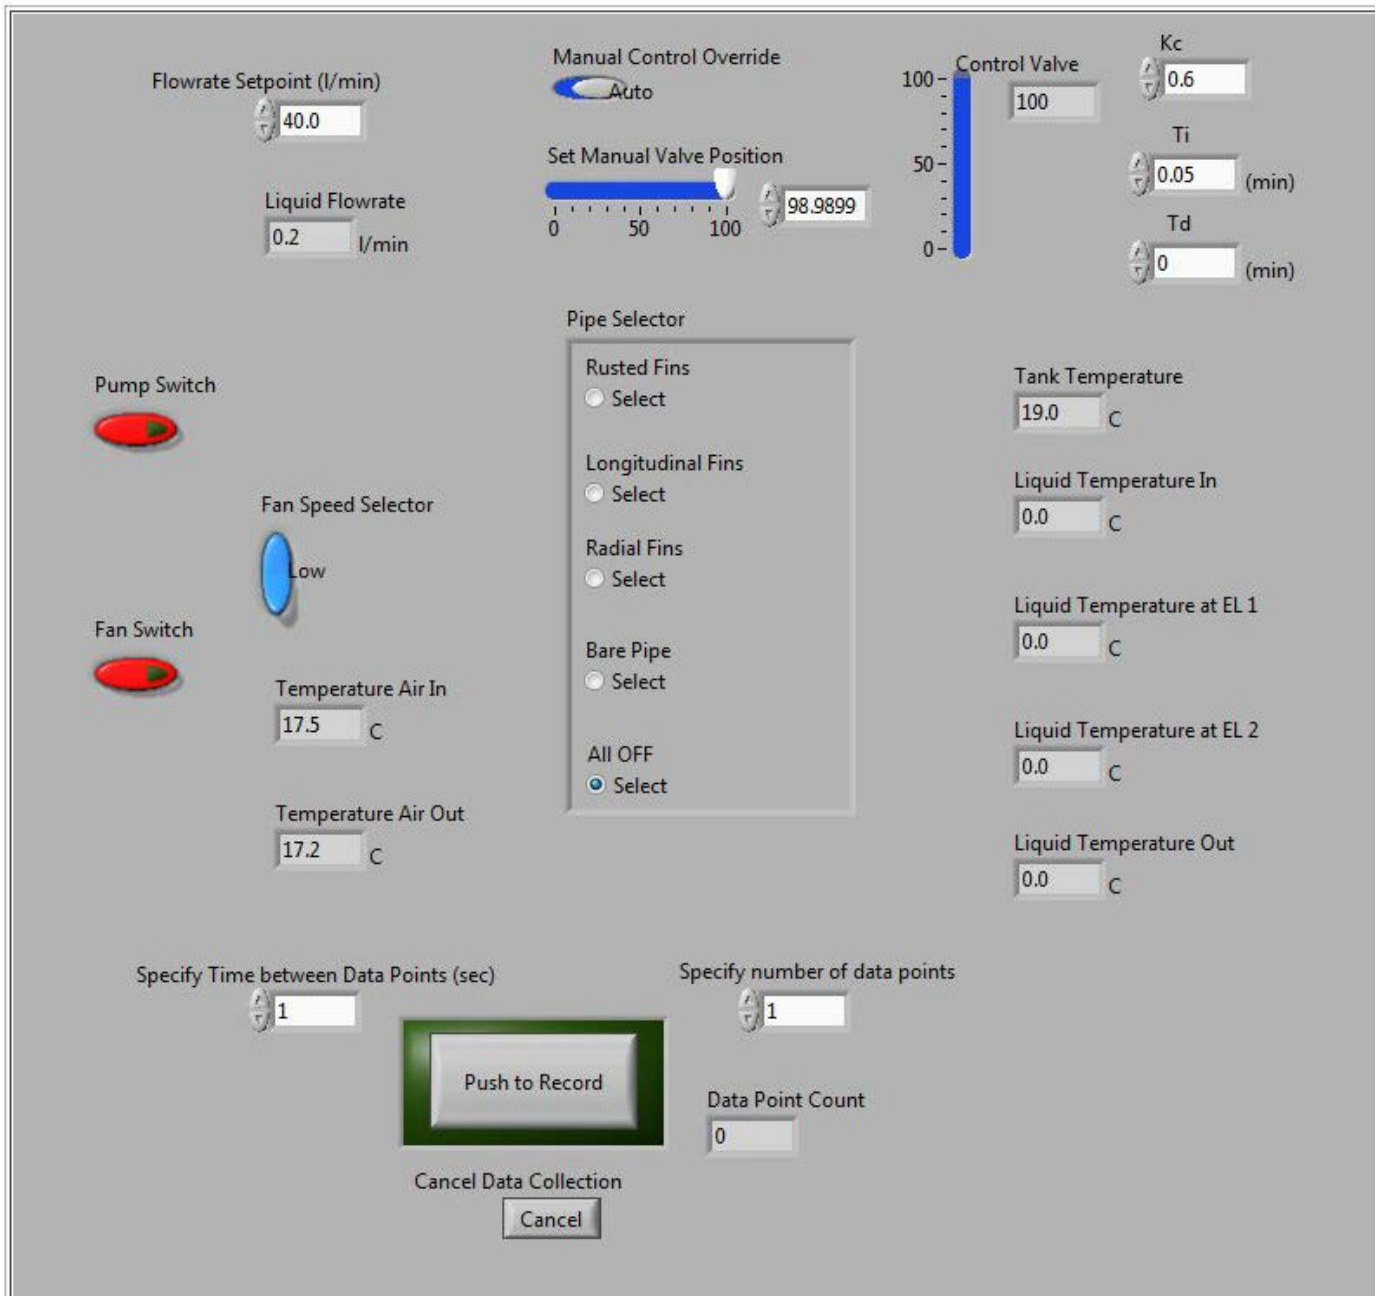

Figure 2 Labview VI for Finned Tube Heat Exchanger (tunable parameters have a white background)
b) Open the Labview VI (here; in firefox only; see Figure 2)